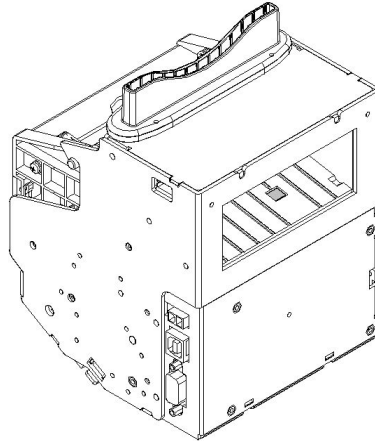

Figure 5.4-1 Cleaning retraction sensor
- 2) Refer to the figure 5.4-1, you can view the retraction sensor at the retraction path of PRESENTER.